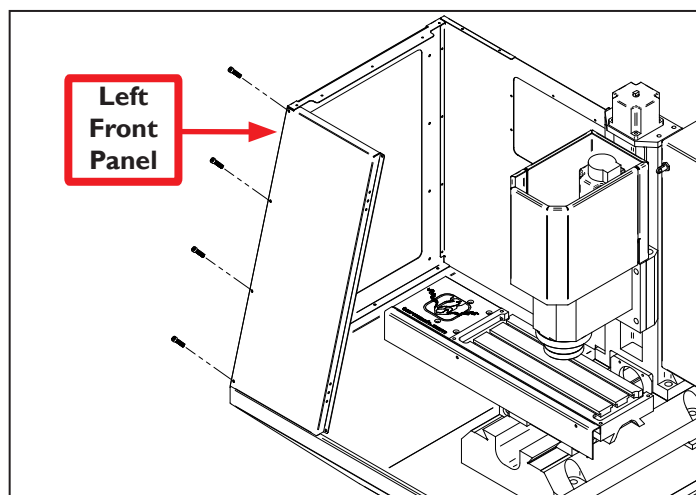

**Figure 5**
8. Using four 10-32 x 3/8" Phillips Screws for each, attach two Side Gibs to both sides of Left Side Panel (see **Figure 5**).